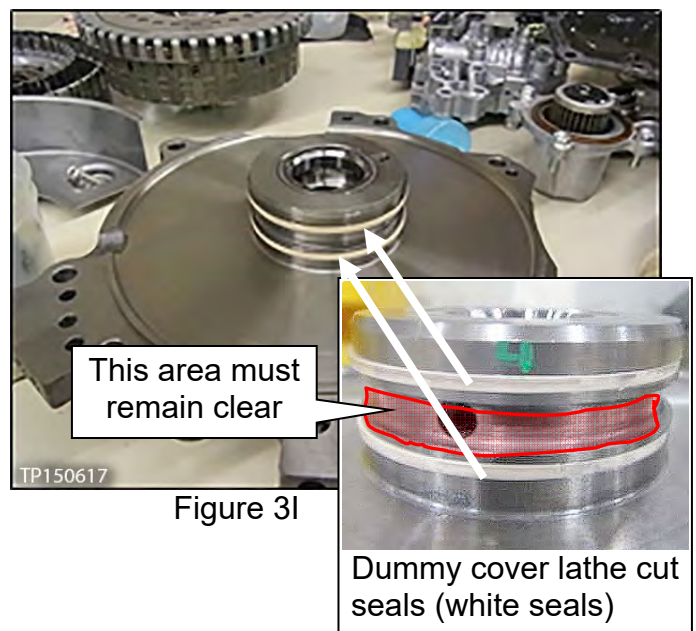

Figure 31
3. Apply petroleum jelly or equivalent to the dummy cover's lathe cut seals (Figure 31) before installing the dummy cover to the CVT case.